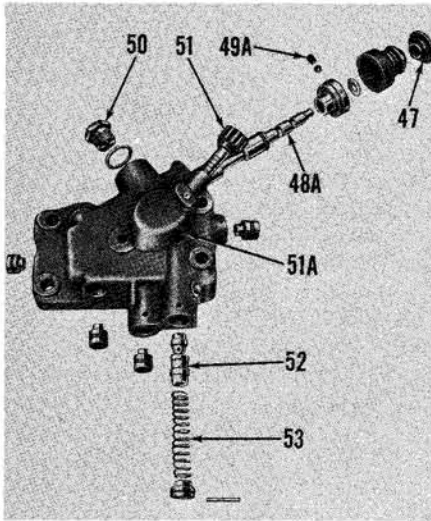

Fig. FO565 — Exploded view of flow control valve. Refer to Fig. FO564 for legend. Restrictor valve (51B) is not shown in above view.
Disassembly procedure for the flow control valve is evident after inspection of unit and reference to Fig. FO565. The flow control valve plunger (52) and remote cylinder selector spool (48A) are selective fit. When renewing a plunger or spool, select the largest size that will fit in the bore without binding. Sizes are color marked as follows: